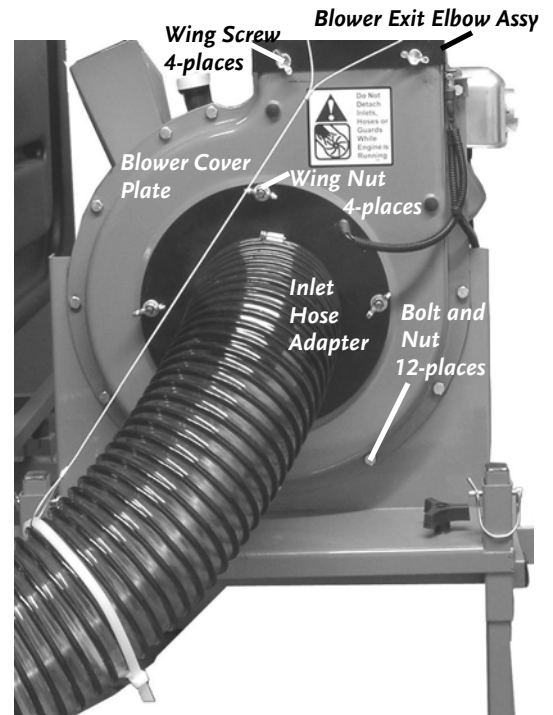

Figure 46
2. Remove the Wing Nuts and Wing Screws to disconnect the Inlet Hose Adapter and Blower Exit Elbow Assembly from the Chipper/Blower unit (**Figure 46**).
3. Using two (2) 1/2" Wrenches or Sockets, remove the twelve (12) Bolts and Nuts (**Figure 46**) retaining the Blower Cover Plate and remove the Plate from the Blower Housing. The Chipper Impeller is now exposed.